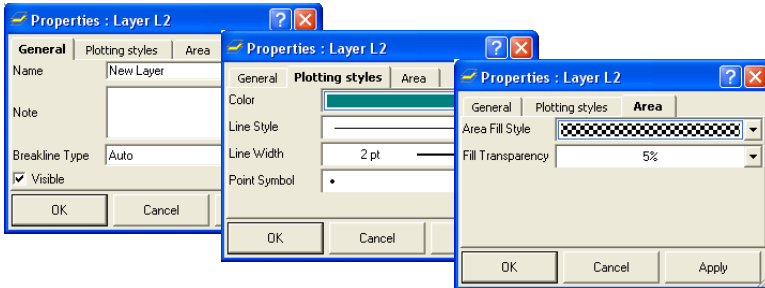

Figure 5-72. Enter and Select Layer's Attributes
2. Enter the following general information for the layer in the *General* tab (Figure 5-72 on page 5-54):
3. Select the following plotting information for the layer (Figure 5-72 on page 5-54):
4. Select the following plotting information for the area (Figure 5-72 on page 5-54):
Edit a Layer using the **Properties** dialog box for the layer (Figure 5-72 on page 5-54).